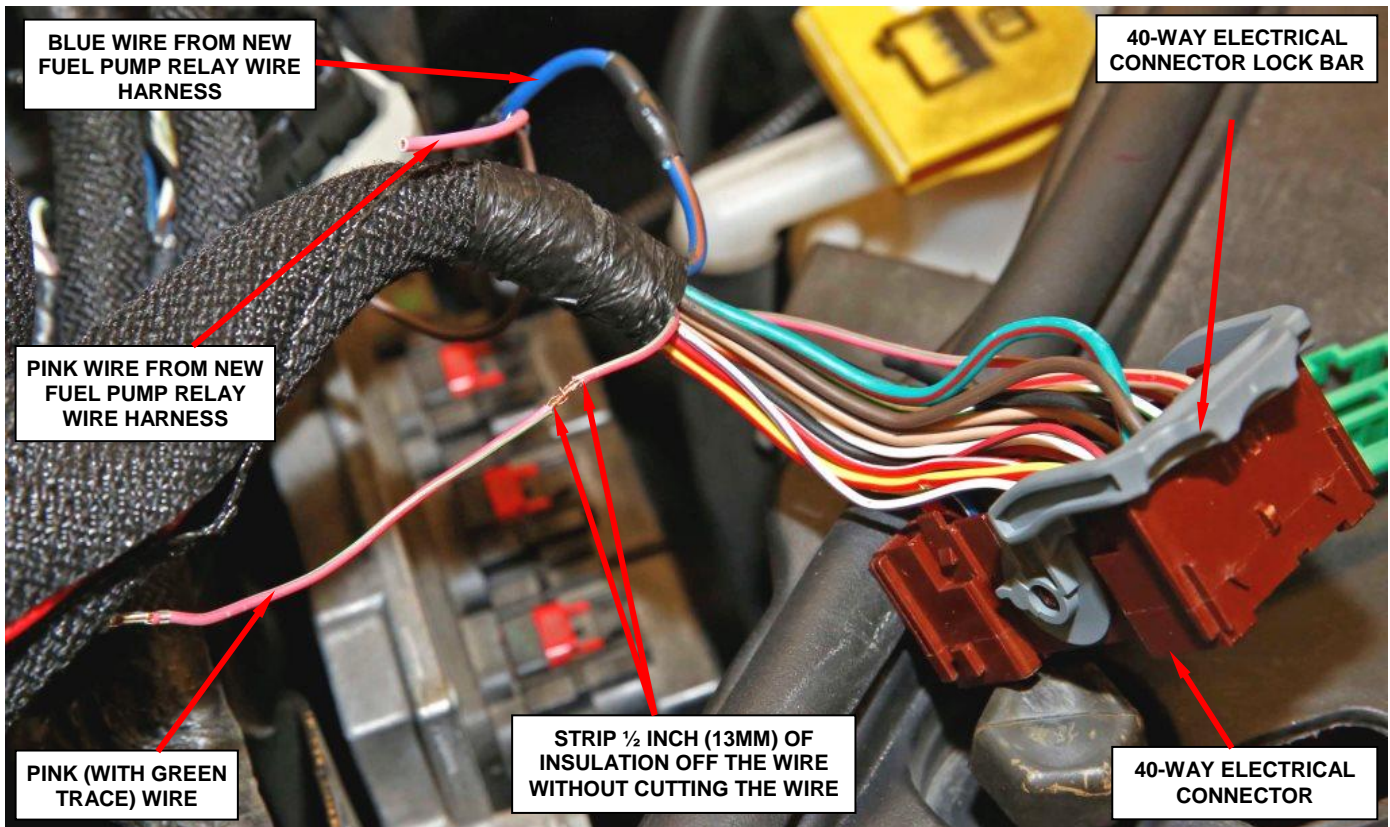

Figure 27 - Remove Insulation without Cutting the Wire
- Strip approximately ½ inch (13 mm) of insulation off the pink (with green trace) wire without cutting the wire (Figure 27).